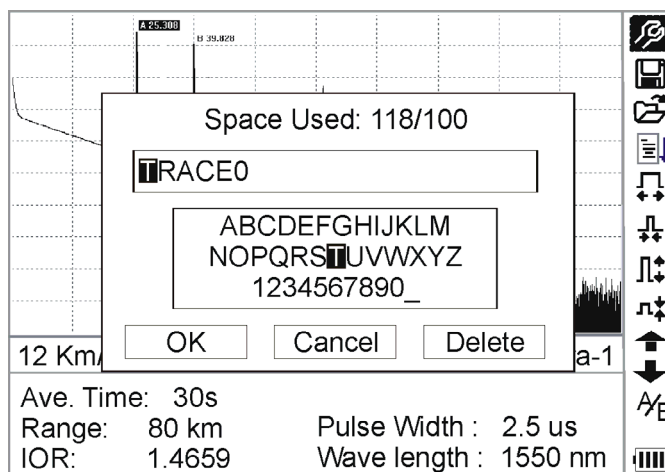

Figure 38.- Save Trace
- 1 Under **GUI** of figure 38, use [▲] and [▼] to highlight , and press [Enter] to enter, as shown in figure 38.